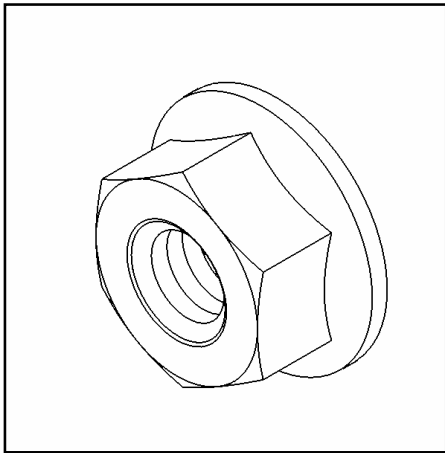

Figure 4: Flanged
3. Once the procedure for setting the TDC is completed, loosen the *Flanged Mounting Nut* (Figure 4) and rotate the TBT's installation shaft counterclockwise to release the belt tension.